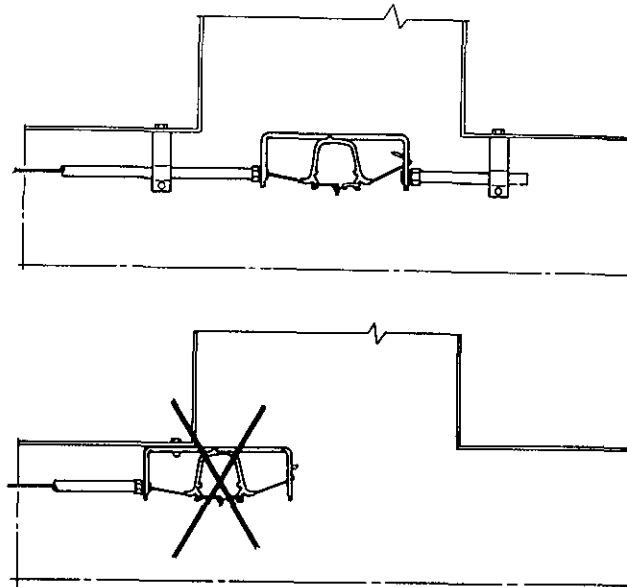

FIGURE 33
2. For a terminal detector located in a duct or header opening, secure both sides of the detector bracket with conduit, as shown in Figure 33.